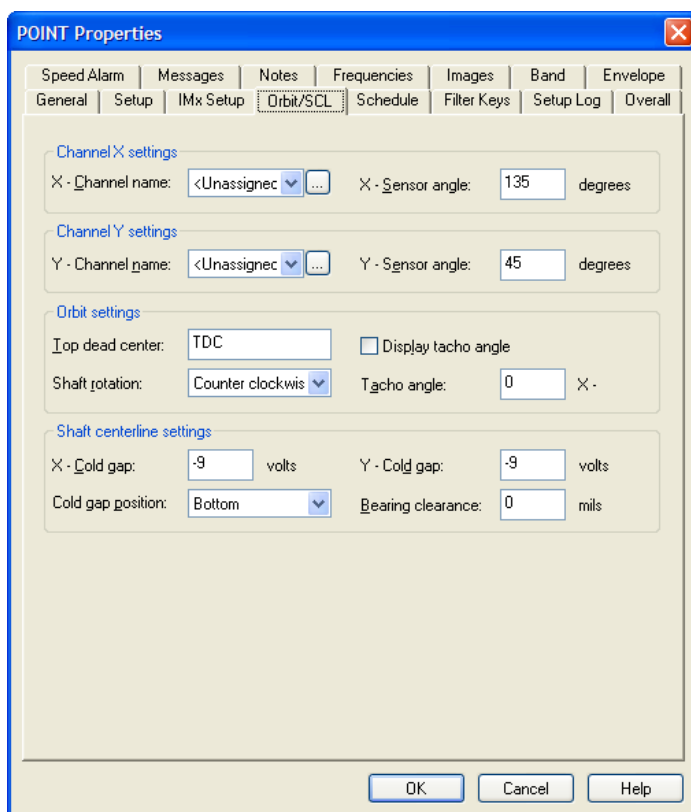

Figure 6. Orbit/SCL tab
5. In the **Orbit/SCL** tab, select the **X -** and **Y - Channels** and set their corresponding angle, in degrees. Next, input the proper **Shaft rotation**, **Tacho angle**, and **Shaft centerline settings**. [Figure 6]